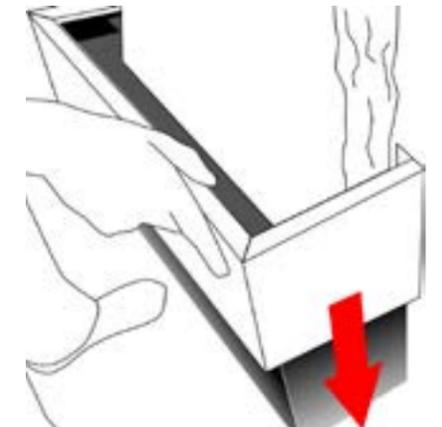

FIG. 6.2
2. Install the Shroud by carefully sliding it behind the panel and down onto the reservoir (L) (Fig 6.2).